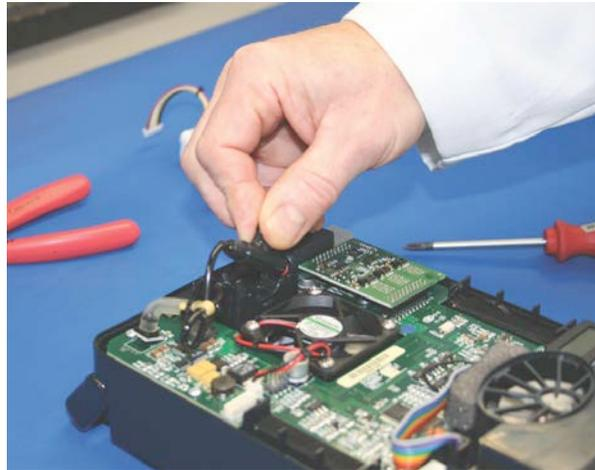

Figure 5.7
6. Remove the adjustable nozzle by gently pulling it upward until it comes out of the left side retaining clips. When the left side is out, pull the nozzle to the left to completely remove it from its cradle. (See Figure 5.7.)